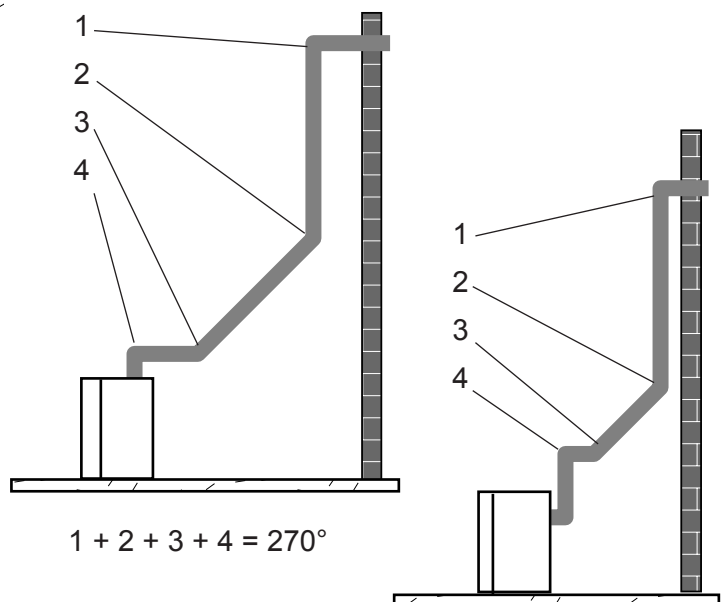

Figure 28 - Maximum Elbow Usage
- The maximum number of 45° elbows permitted per side wall installation is two (2). These elbows can be installed in either the vertical or horizontal run.
- The maximum number of elbow degrees in a system is 270°. See Figure 28.